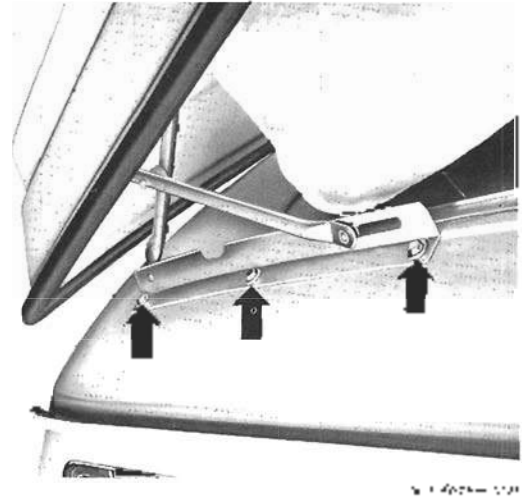

Fig. 7-31. Bolts (arrows) that hold hinge on roof panel. Be careful not to let the unbolted hinge scratch the paint on the roof panel.
2. Remove the hinge mounting bolts indicated in Fig. 7-31. Have someone hold the roof firmly while you remove the bolts on the opposite side.